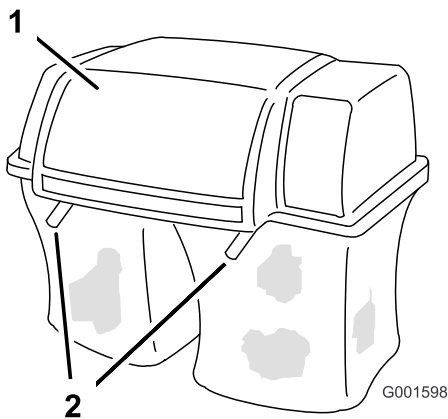

Figure 24
1. Raise the bagger top and remove the grass bags from the bag frame (Figure 24).